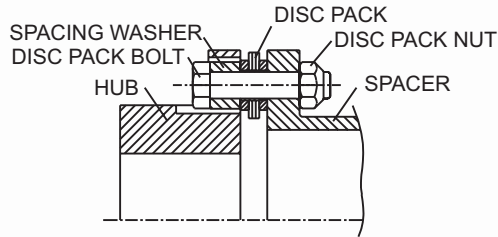

Figure 6. Bolt Disc Pack to Spacer
4.4 Place a spacing washer over a disc pack bolt. Insert the bolt through the large hub clearance hole and the disc pack bushing. See Figure 6. Tap the bolts lightly for full engagement. Repeat for the other bolts.